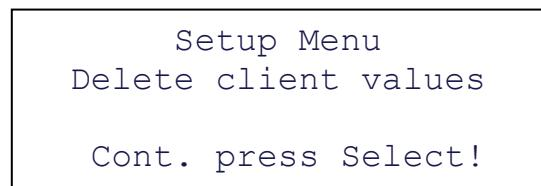

Fig. 6: Setup-Menu
6. Press the SELECT key **14** to get to the submenu „delete client values“ (see Fig. 6).